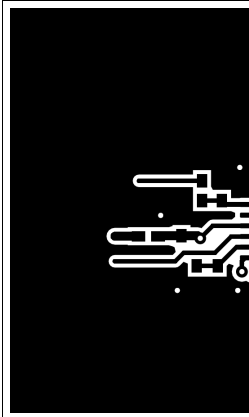

Figure 40. Top Layer Traces and Copper
- Increasing the PCB copper connecting to VDDA, VDDB, VSSA and VSSB pins is recommended, with priority on maximizing the connection to VSSA and VSSB (see Figure 40 and Figure 41). However, high voltage PCB considerations mentioned above must be maintained.
Figure 40 and Figure 41 shows top and bottom layer traces and copper.